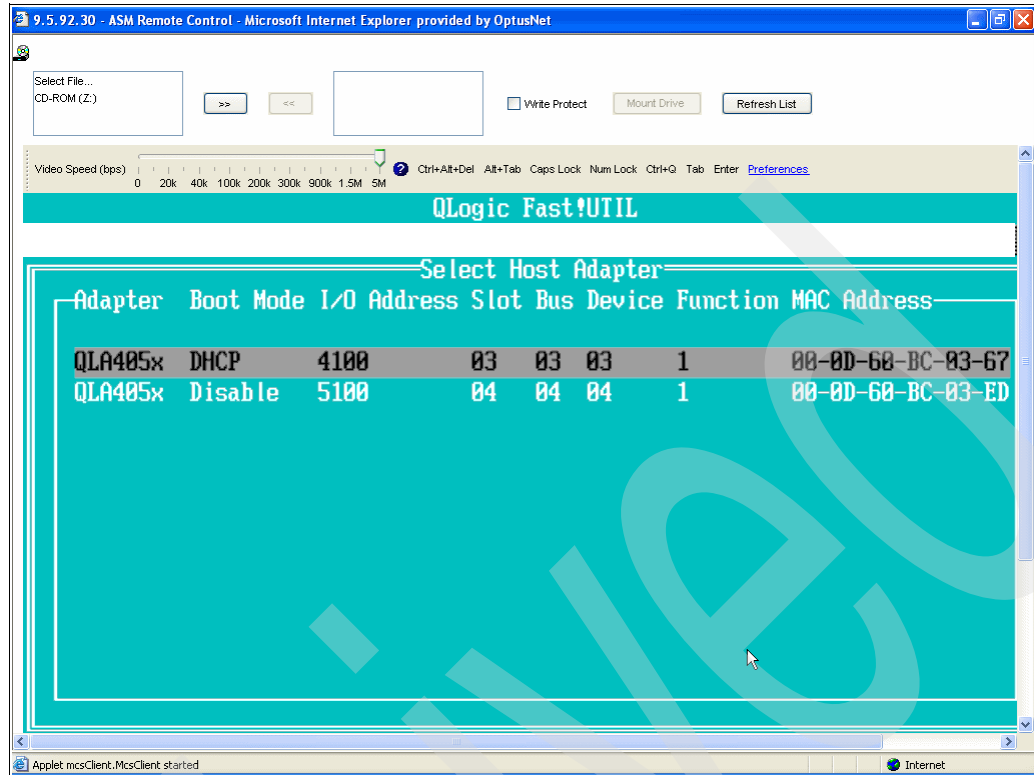

Figure 9-67 QLogic Fast!UTIL display
3. After a minute or two, you see a display similar to the one shown in Figure 9-67 on page 440.
Figure 9-67 shows the initiator HBA ports that are installed in the xSeries or Blade server, their MAC addresses, and other configuration information. In Figure 9-67, there are two ports; the boot port is the one with Boot Mode set to DHCP.